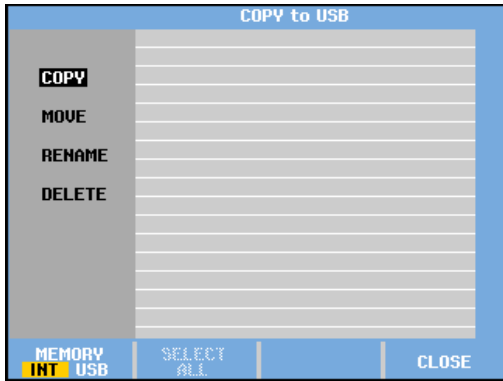

Figure 1.
- If you see a screen like figure 1 on page 2 no screens and setups are stored. Press F4 – CLOSE to exit.